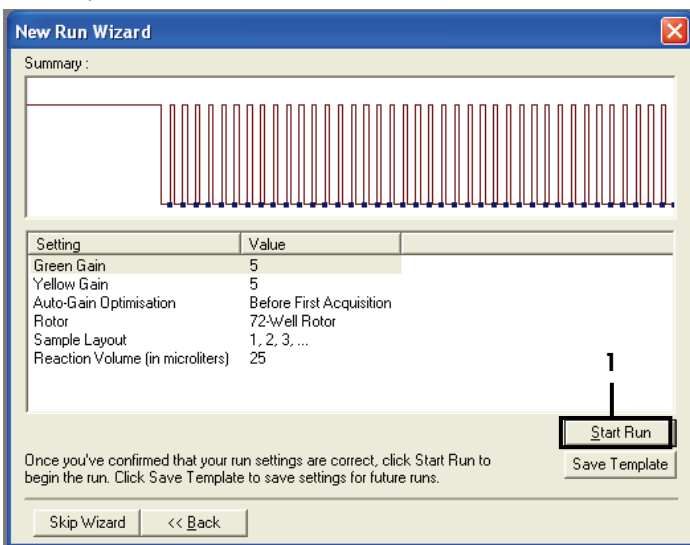

Figure 36. The “New Run Wizard” dialog box and summary screen (1 = “Start Run”).
- Verify the summary and click **Start Run** to save the run file and start the run (Figure 36).